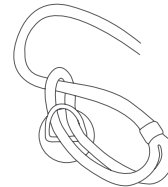

Fig 60 -
2. Pass the other end of the Dock Line through the spliced loop (Fig 60).